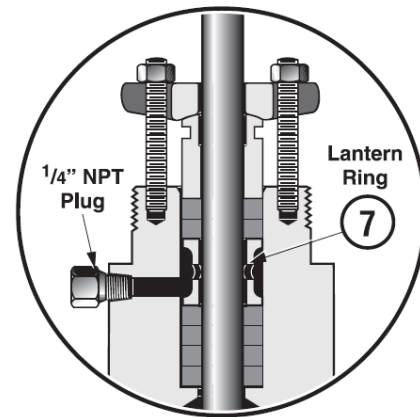

Figure 2: Lubricator Connection (Optional)
- A. Loosen and remove packing flange nuts (15).
- B. Lift the packing flange (13) and packing follower (12) up the valve stem.
- C. By means of a hooked instrument, remove packing (16) insuring not to damage the sealing surfaces of the packing box or plug stem.
**Note: On valves equipped with an optional lubricator connection, the lantern ring (17) must also be removed to gain access to lower packing rings.**
- D. Replace packing rings (16).
**Note: On valves equipped with an optional lubricator connection, refer to Figure 2 for correct amount of rings to place under the lantern ring (17).**
- E. Replace packing follower (12) and packing flange (13).
- F. Replace and tighten packing stud nuts (15).
- L. If a leak detection connection was installed, connect it on the lateral NPT port in the bonnet. If not, insure that the 1/4" NPT plug remained in place (Figure 2).
L. If a leak detection connection was installed, connect it on the lateral NPT port in the bonnet. If not, insure that the 1/4” NPT plug remained in place (Figure 2).